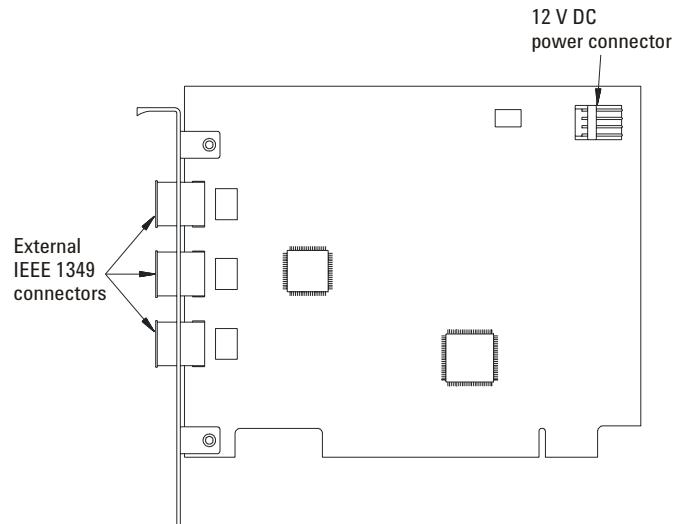

Figure 4-1 Layout of a Typical OHCI-Compatible PCI-to-IEEE Host Adapter.
If your personal computer (PC) currently has a Solectron OHCI403 PCI-to-IEEE 1394 host adapter (Figure 4-1), a later version OHCI0-compatible PCI-to-IEEE 1394 host adapter, or a built-in IEEE 1394 port, continue with step 3, part b, in Chapter 1, "Set up your measurement hardware." (page 19).